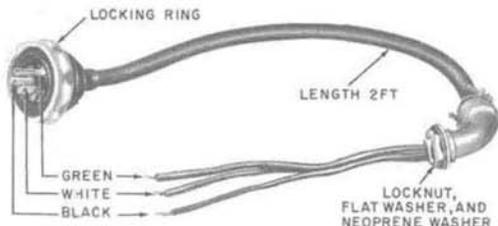

Fig. 4—KS-19580, List 30 Power Cord Assembly
- (a) *KS-19580, List 30 power cord assembly (Fig. 4)*: Used for overhead power.